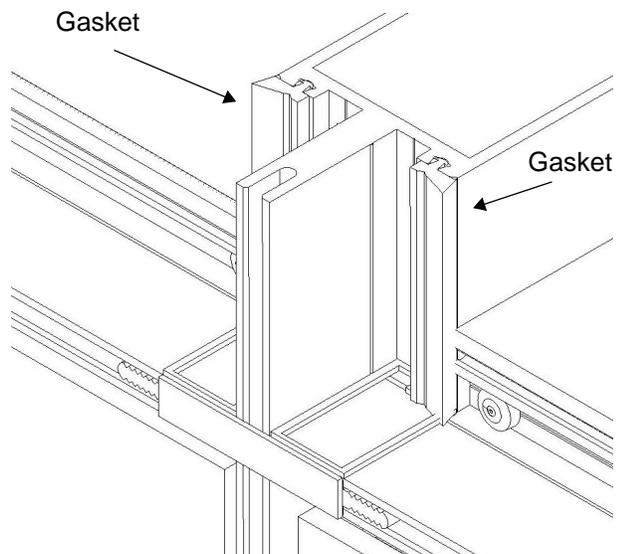

Figure 16: Press the vertical gaskets into their reglets on the vertical member.
- Press the vertical gaskets into their reglets on the vertical member, as shown in Figure 16. Press the ends of the gaskets into the sealant around the water dams.